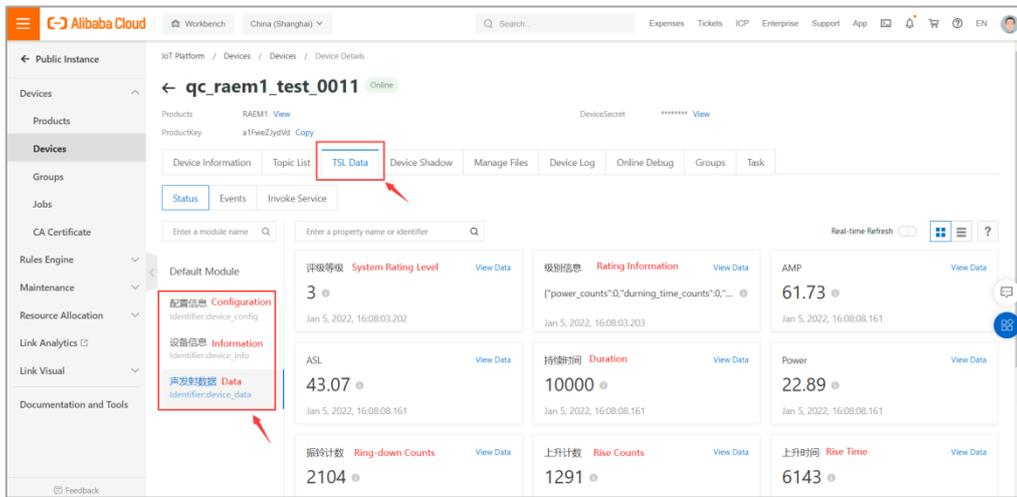

Fig. 4-58 Qingcheng Alibaba Cloud
- (3) Choose the “TSL Data” tab and there are three modules under the “Default Module” on the left, device configuration, device Information and device data respectively. All the data are real-time display. (Figure 4-58)